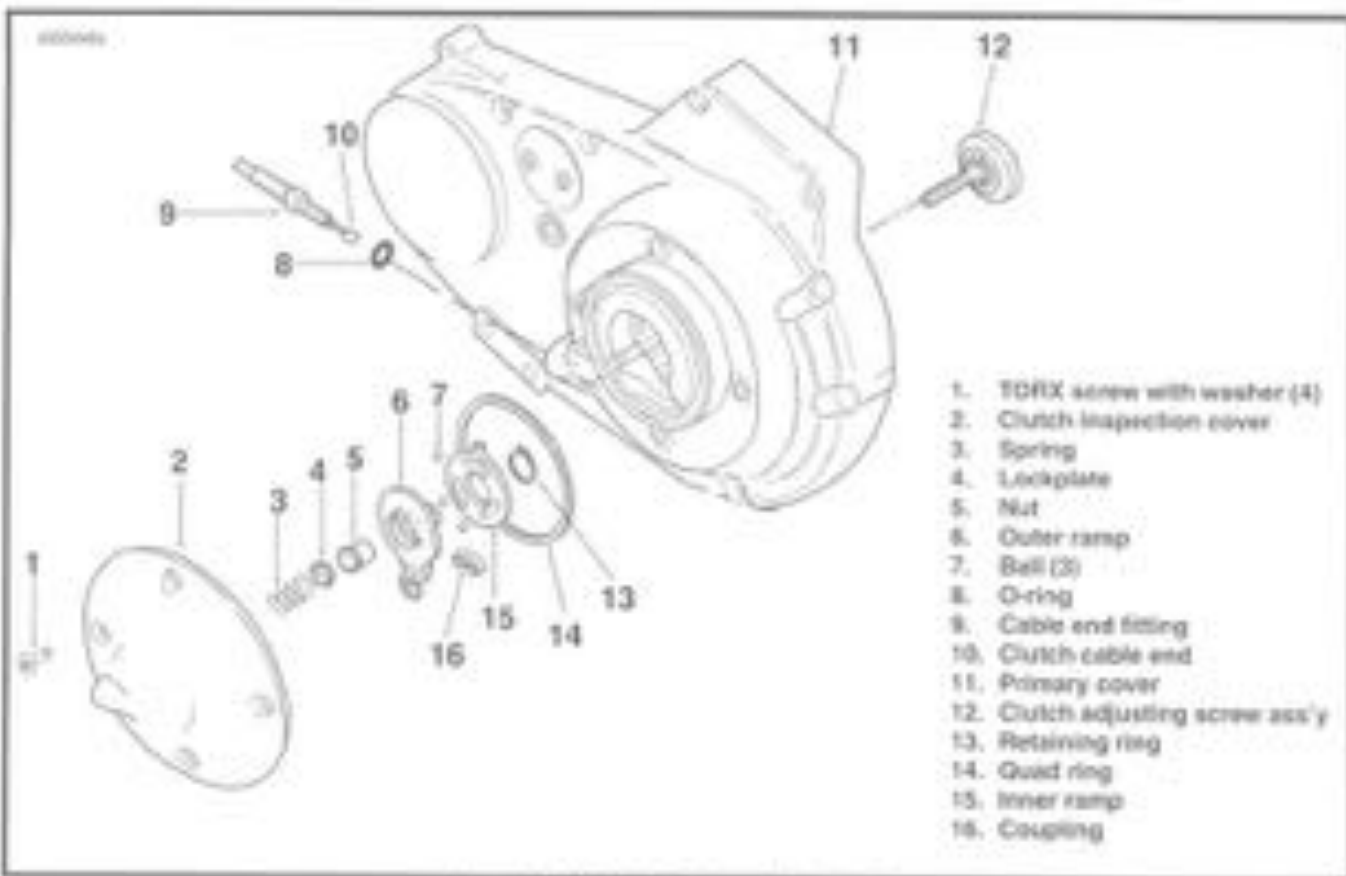

Figure 6-11. Clutch Release Mechanism
2. See Figure 6-11. Remove cotter pin (1) and loosen rear axle nut (2). Turn axle adjuster nuts (3) (on each side of rear fork) clockwise to decrease belt deflection (increase tension), or counterclockwise to increase belt deflection (decrease tension). Turn each adjuster nut exactly the same number of turns in order to maintain alignment of rear wheel.
4. After belt deflection is properly adjusted, tighten axle nut (2) to 60-65 ft-lbs (81-88 Nm) torque. Install cotter pin (1).
2. Slide spring with attached hex lockplate from ferrule of adjusting screw. See Figure 6-11.
CLEANING, INSPECTION, AND REPAIR (Figure 6-11)
ASSEMBLY (Figure 6-11)